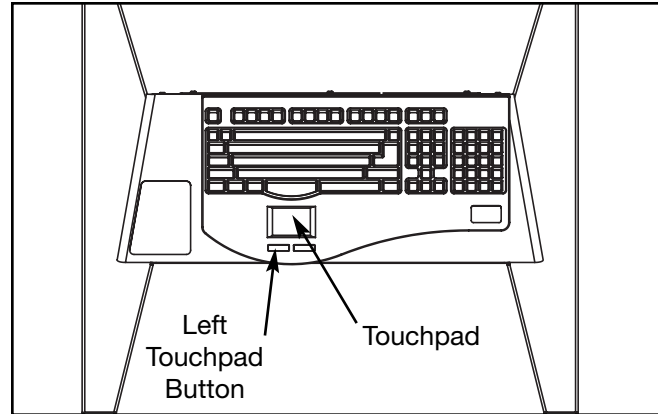

Figure 2
9. Locate the touchpad mounted in the keyboard. Using one finger touch the pad and move your finger to guide the pointer on the screen. See Figure 2.